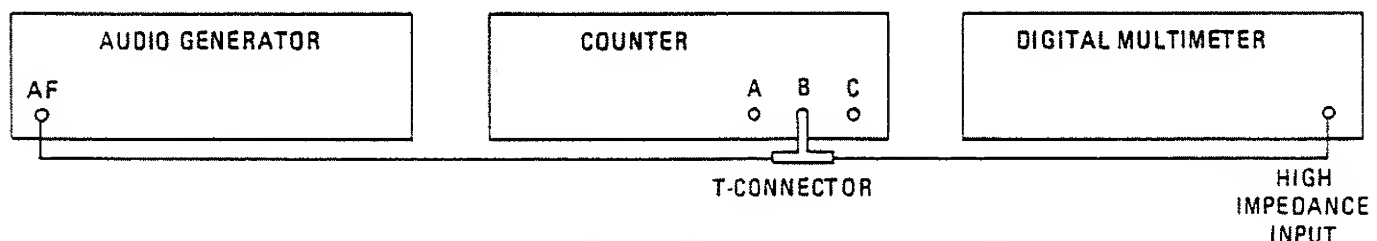

Fig. 6.10B Connections for Input B Sensitivity PVP (II)
- (1) Connect the test equipment as shown in Fig. 6.10B.